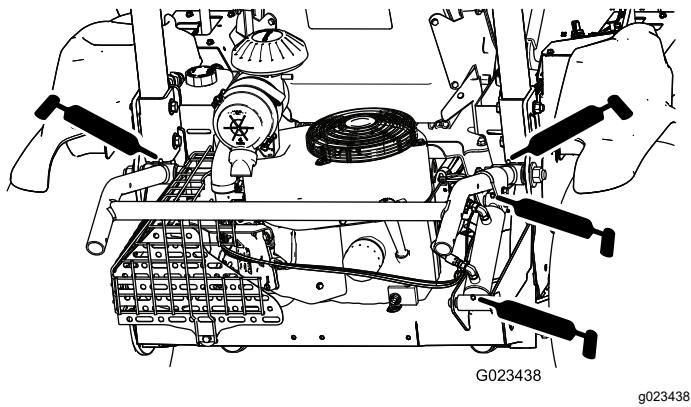

Figure 31
- Attachment lift (4) — Figure 31